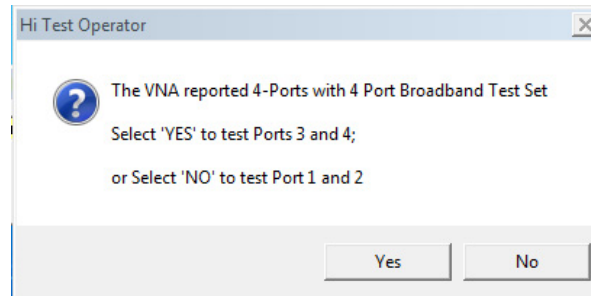

Figure 3-8. Found Instrument Dialog
11. The ME7838D4 is a 4-port system. The calibration and verification testing can be performed on only two ports at a time. At the prompt shown in Figure 3-8, select to test either Port 1 and Port 2, or test Port 3 and Port 4. If testing Port 3 and Port 4 is requested, select Yes. If testing port 1 and 2 is requested, select No.